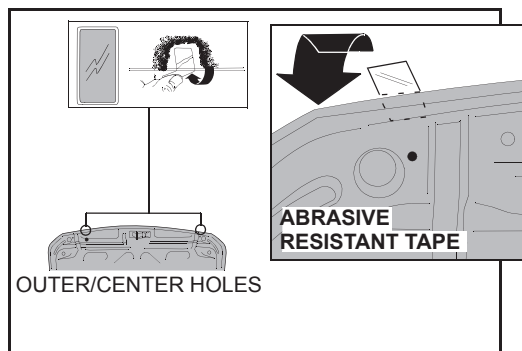

Figure 3. Abrasive resistant tape installation
3. Adhere the abrasive resistant tape to the hood lip as per figure 3; half on the underside and half on the top of the hood.